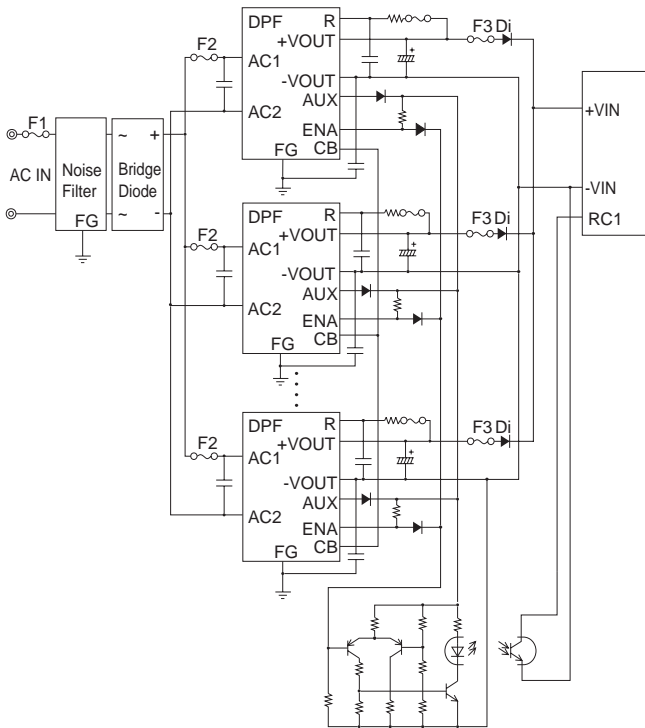

Fig.5.2 N+1 redundant operation
- It is possible to set N+1 redundant operation for improving reliability of power supply system. Connect as shown in Fig.5.2.